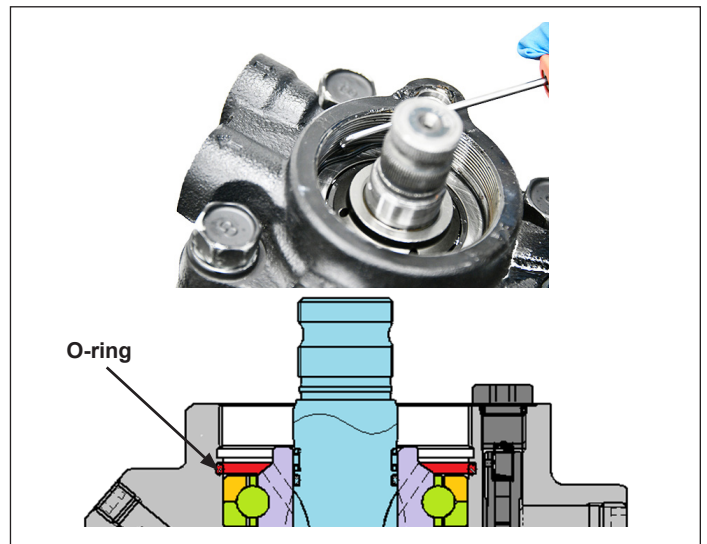

Figure 5 - O-ring Position
12. Replace the o-ring inside the valve housing with a new o-ring. See *Figure 5*.
NOTE: See Figure 5. Ensure the o-ring is positioned on the correct groove and inserted into the groove at the bottom of the input shaft. Ensure there are no o-ring remnants inside the thread pitch of the threaded ring.